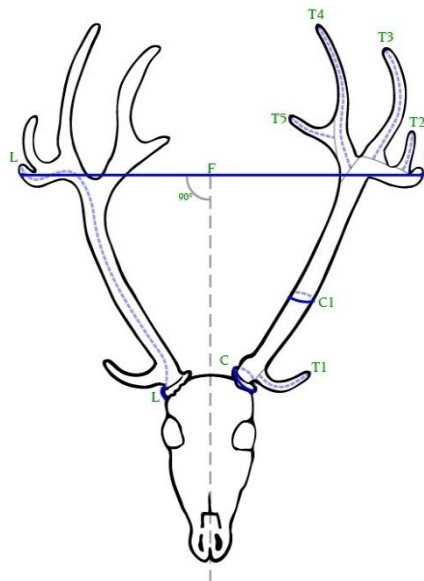

Figure 1
3. Circumference. Use a steel tape, not a cable, and maintain a tight tape in a continuous loop. For the burr (C), go over the top of normal (less than $\frac{2}{8}$ inch or 6mm) protrusions or pearling. Do not press the tape into indentations. Projections growing from the burr that are $\frac{2}{8}$ inch or 6mm long or longer must not be included in the measurement; see GDI. For the circumference of the main beam, measure the smallest place between the brow and the next major tine. Keep the tape tight around the antler and go up and down the axis of the main beam till you find the smallest place. (Figures 1 and 2, C1). The T2 may be missing on huemuls or tarucas, and, if so, the C1 circumference is taken halfway between the main beam tip and the center of the main beam where the T1 branches off; see GD No 21. Locate the center of the baseline of the T1 tine—which was already drawn for measuring that tine—and extend this line across the main beam at a 90-degree angle to the main beam axis. Measure from this line along the centerline of the main beam to the main beam tip, and then divide by two.
Figures 1 and 2 show all elements that need to be measured for the deer that fall under Method 1-h. (1) Main Beam (L). (2) Length of all tines, T1, T2, T3, T4, etc. Note that there are no NT tines under method 1-h. (3) Circumferences of burr (C) and main beam (C1). (4) Span (F), which is taken from the inside of the main beams.